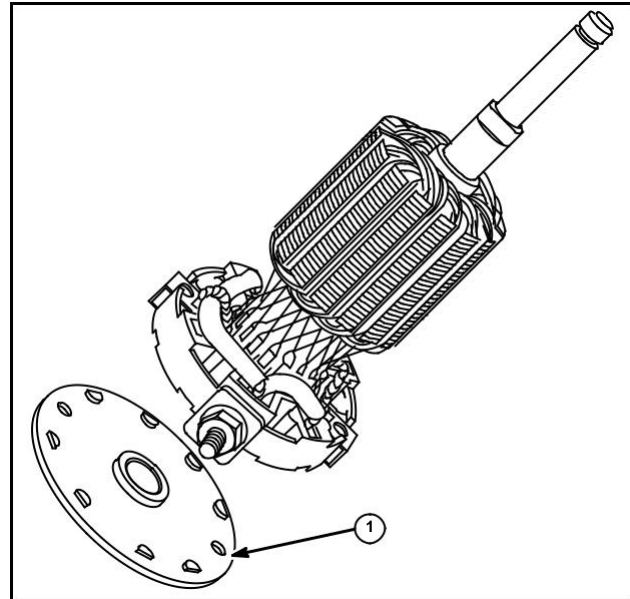

Fig. 69
5. While holding brush holder and armature, remove bearing end cap (1) from armature, Fig. 69.